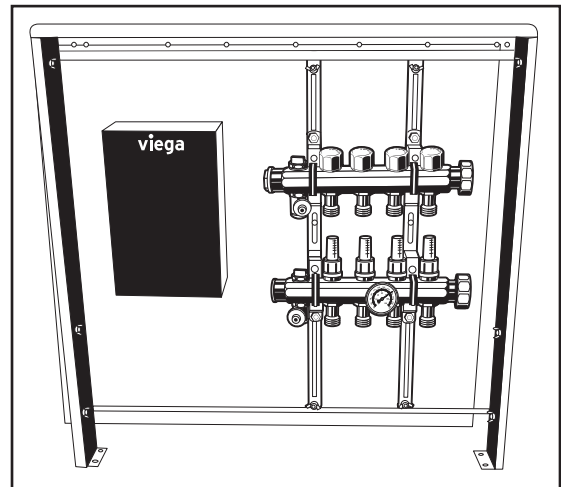

Figure 2c
4. Adjust the location of the manifold with the adjustable rails, making sure the manifold aligns with the holes on the side of the manifold cabinet. If a zone control is to be used; position your manifold to the side, leaving room for the zone control. See *Figure 2c*.